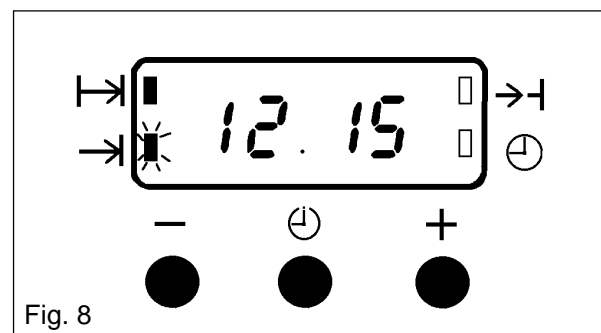

Fig. 8
- v) To set the 'End Time'. Press the Selector Control button until the 'End Time' (→|) flashes. Press the increase control ( + ) until the required stop time is displayed, e.g. 12.15 p.m. as Fig. 8. If necessary depress the decrease control ( - ) until the correct time interval is achieved.